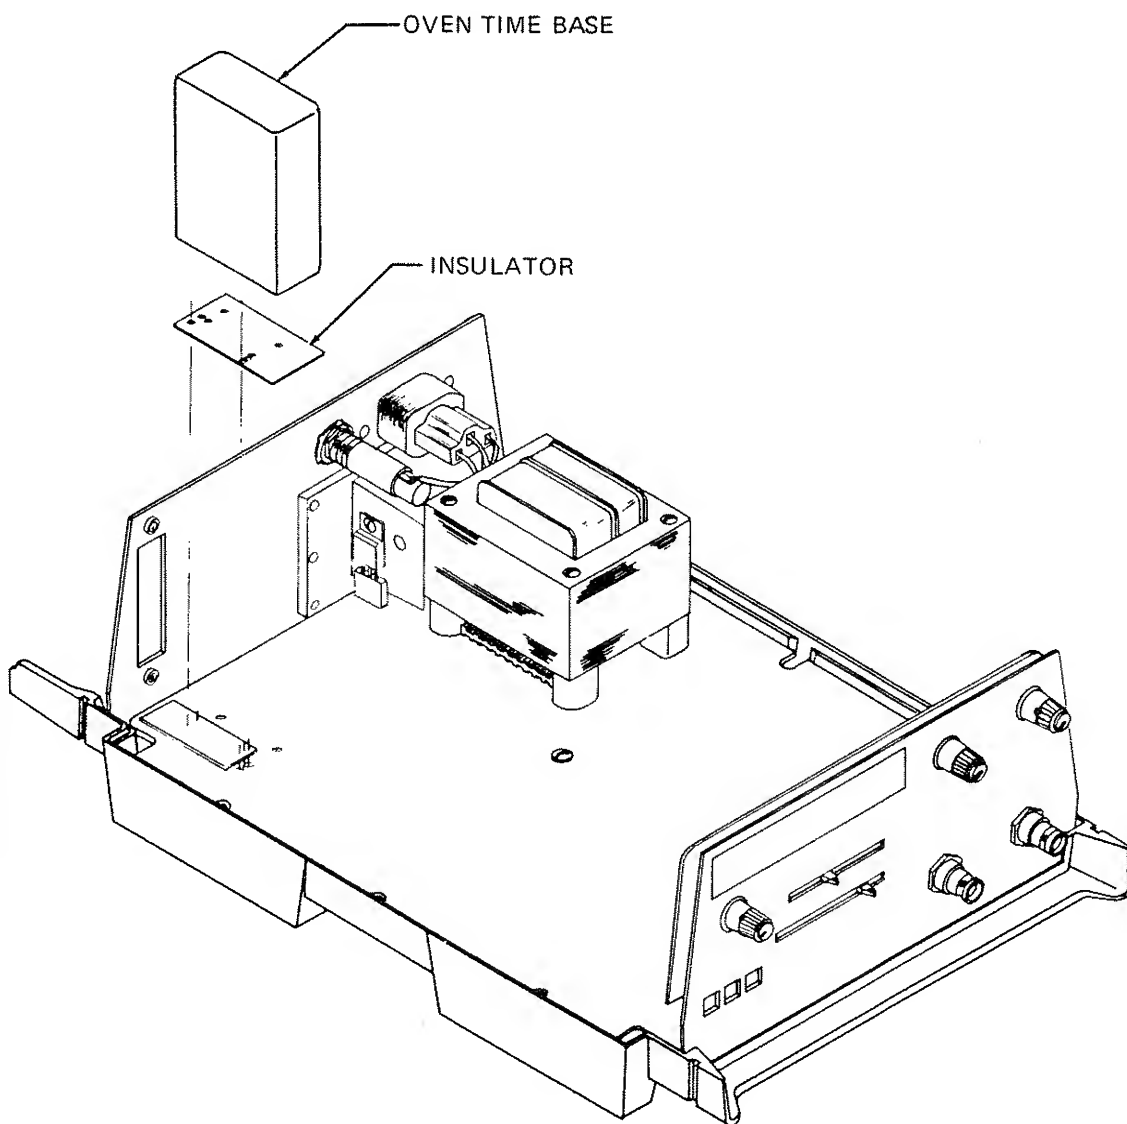

Figure 132-1. Installation
2. Referring to figure 132-1, install the Superior Low Power Oven Time Base and insulator. Use the provided hardware to secure the time base to the Main PCB.